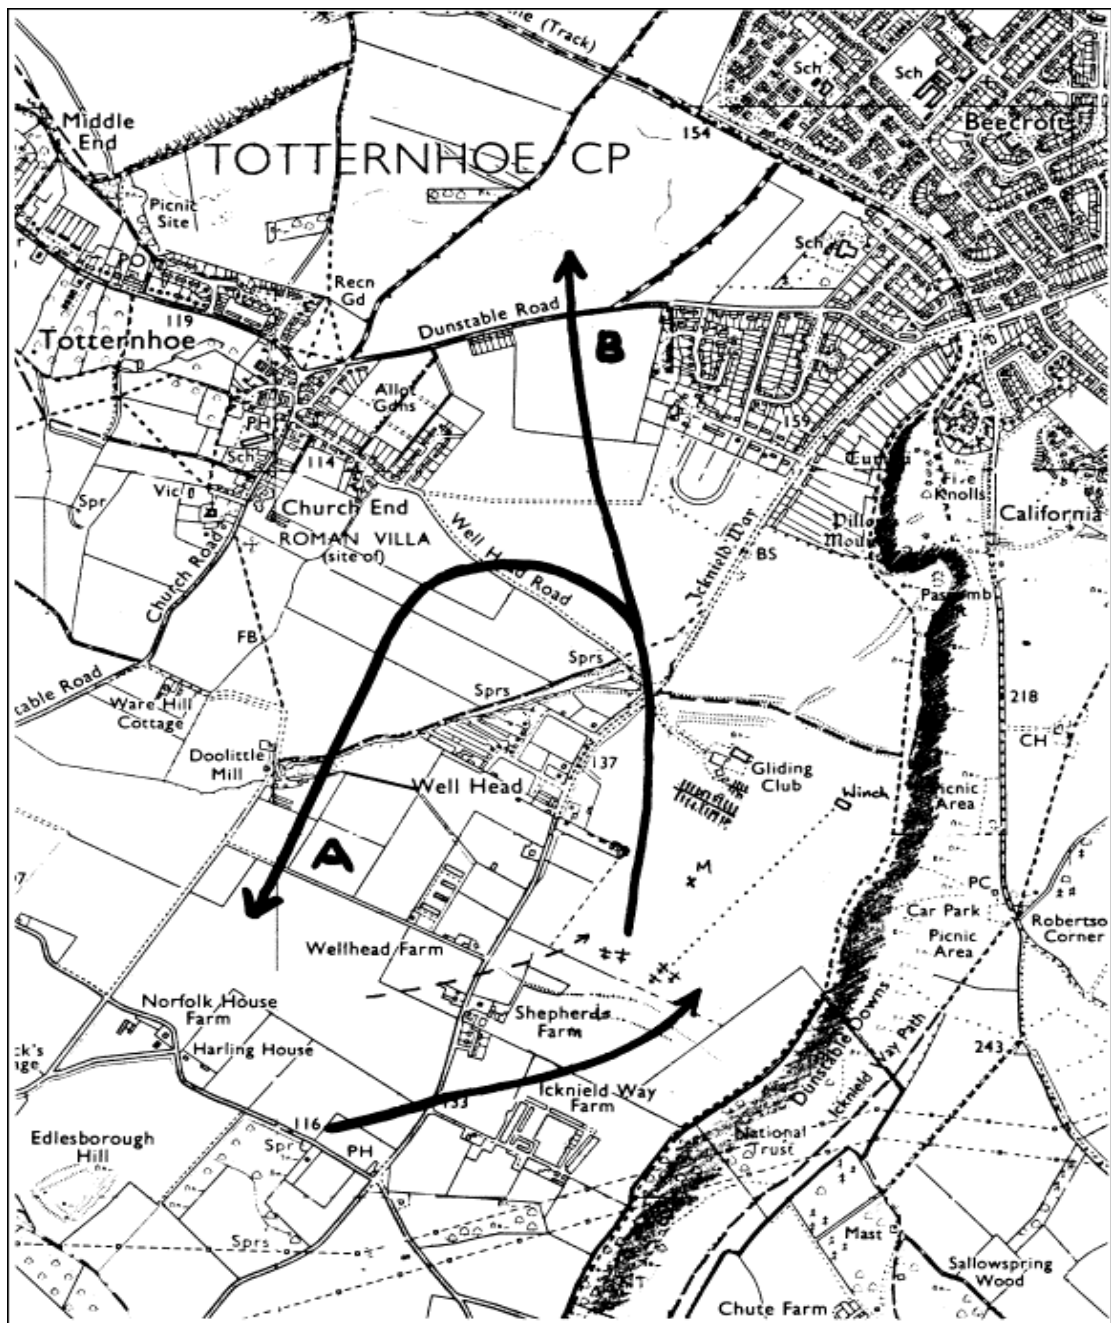

Figure 3
### 8.3 North East Run (Figure 3)
*Landing.* Landings should normally be made to the right of the launch point, where the ground is smoothest, along the approach paths indicated in Figure 3. Landing may be made onto the ground to the left of the launch point, which is rougher, but be aware of the location of the midfield lookout and of blocking any aerotow about to depart. If the winch cable needs to be traversed, call the tower to advise and exercise extreme care. Ensure that no cable has been 'picked up' as you cross. Beware of downdrafts on short finals in strong wind conditions.